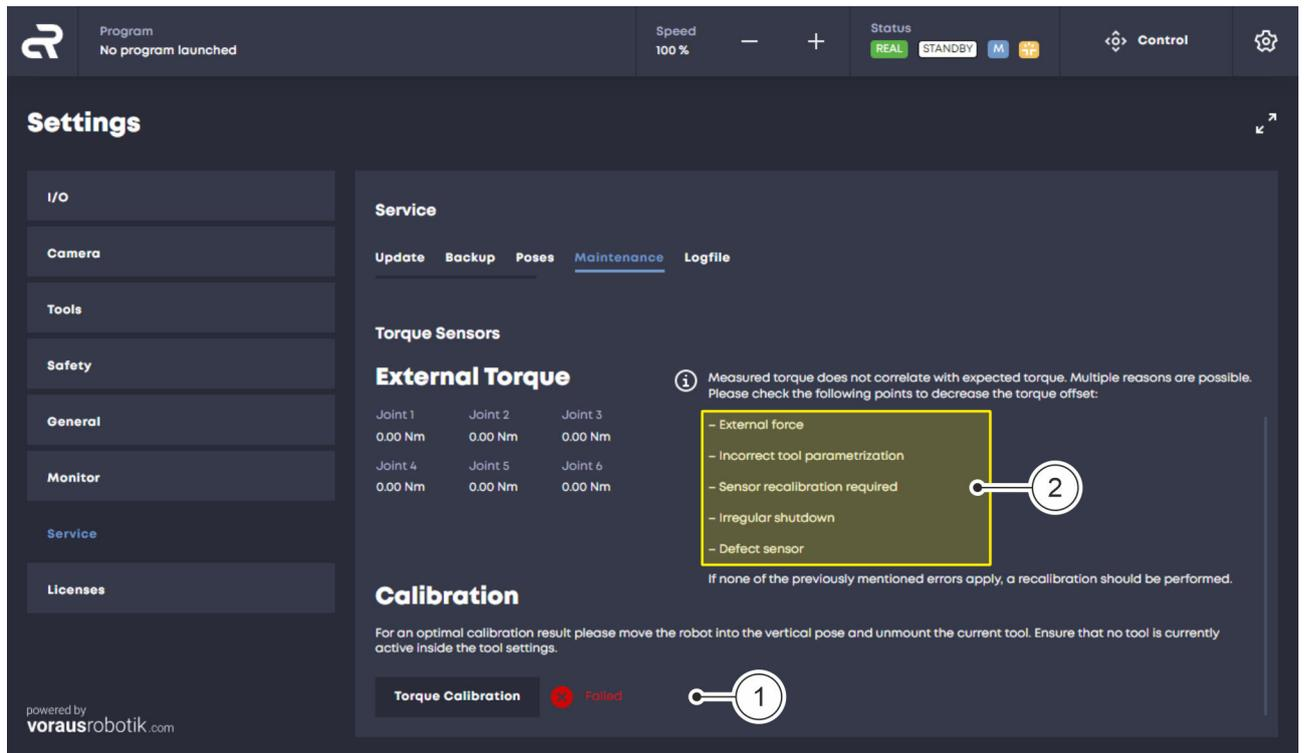

Fig. 57 Calibration failed
07. If calibration fails and the text 'Failed' is displayed Fig. 57/①:
Check the criteria displayed in the user interface and repeat the calibration of the torque sensors as described above Fig. 57/②.